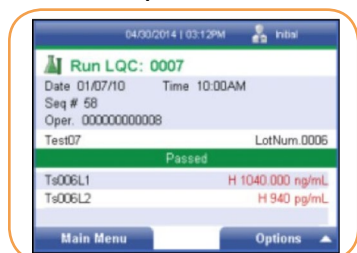

FIGURE 105
14. Once completed the reader will display the results (Figure 105).